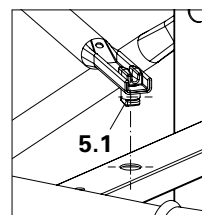

Fig. A1.05a
1. Attach pin (5.1) to the Base-Head Frame or Stacking Frame. (Fig. A1.05a)